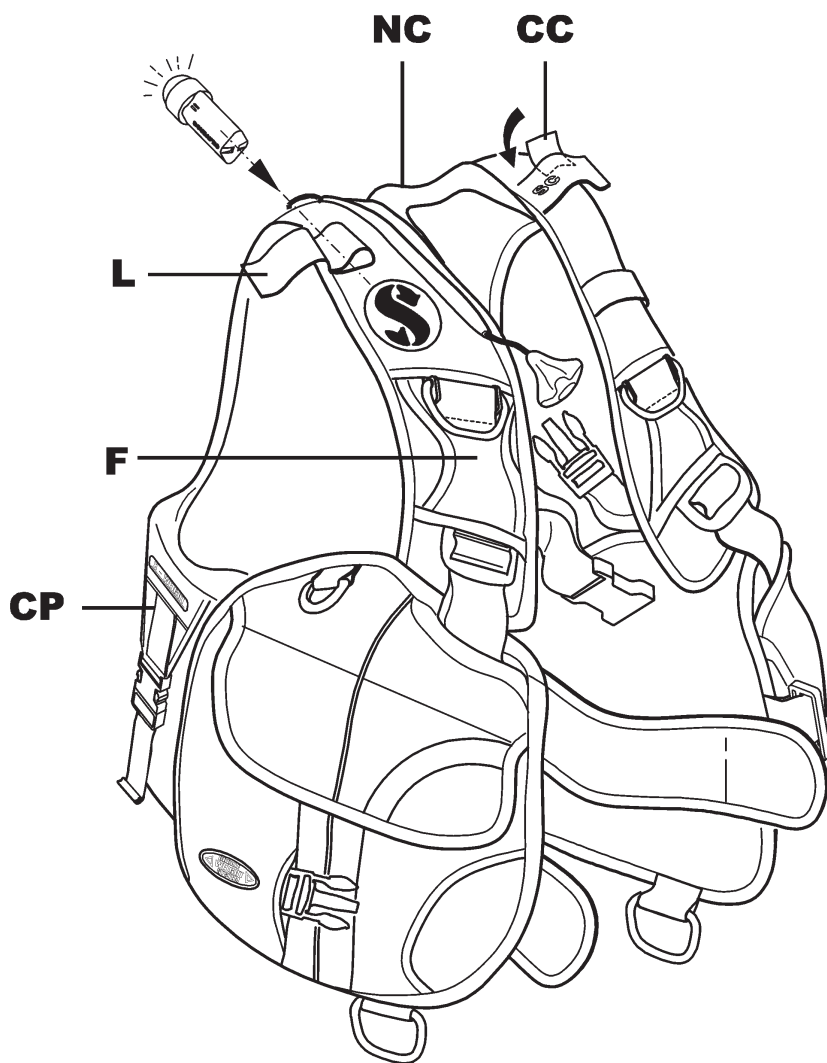

fig. 12
5. Color coordination pad , to easily individuate the size even from far (fig. 12 – CC), as follows :
The shoulder lobes and pockets are made of heavy polyester fabric and threads with a built in soft neck collar (fig. 12 - NC).
The other features are: the Integrated Weight System (paragraph 4 - fig. 5) and two back extra pockets (fig. 12 - CP) to hold counterweights (fig. 4 - paragraph 4), small Marker Buoy or other accessories.
To highlight the "Glide" concept, also the shoulder buckles are protected with a fabric patch (fig. 12 - F). The chest strap is elastic to prevent squeezing of the lungs, if the bag is over inflated : the « D » rings can be placed under the above patch (fig. 12 - F). All main buckles are 50 mm. (2") for easy handling even with thick gloves.
In the right epaulette (fig. 12 - L) there is an elastic loop, to possibly hold a blinking light during the night dive (such as the SCUBAPRO® Safety Light or Strobe Light)
In the right epaulette (fig. 12 - L) there is an elastic loop, to possibly hold a blinking light during the night dive (such as the SCUBAPRO® Flashlight or Strobe Light)